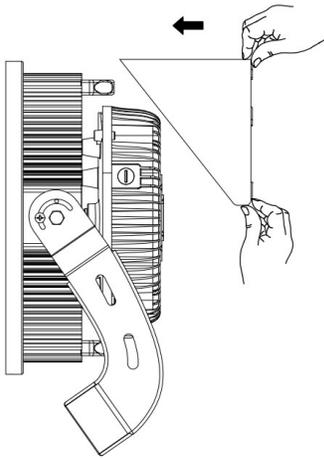
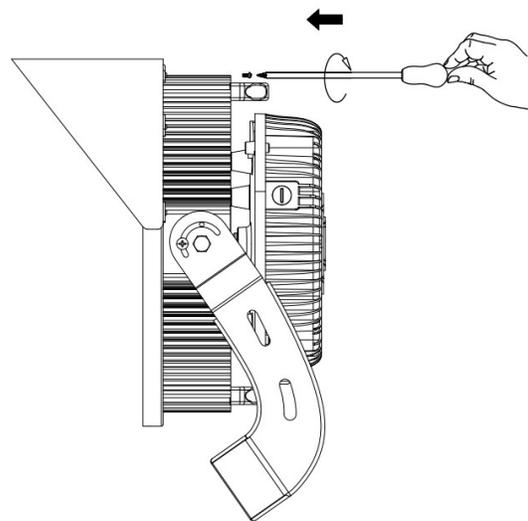

FIG.10
FIG.11
- 2) Turn around, slide the shroud onto the fixture from the back, align screw holes and lock with screws. See FIG.10 and See FIG.11.